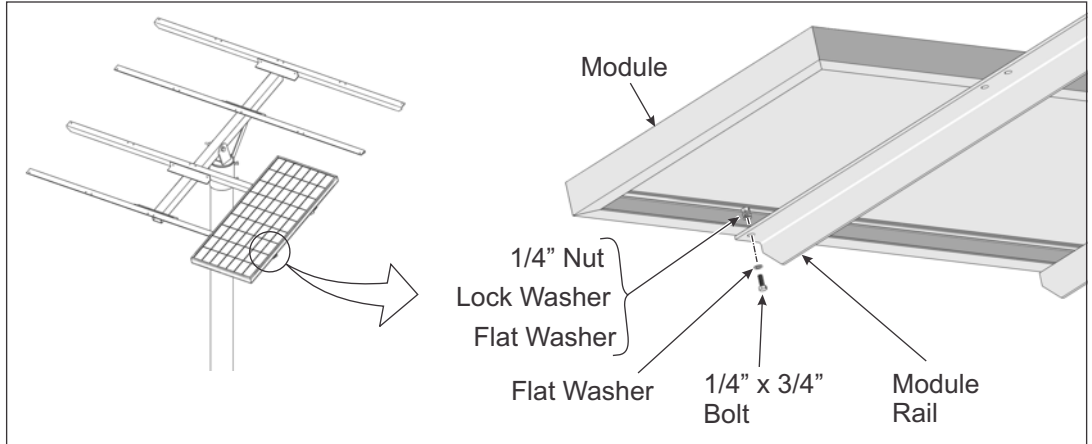

Figure 4-1: Installing PV Modules to Module Rails
- A. Place the southern most PV Module in place on the Module Rails. Align the mounting holes and secure with 1/4" x 3/4" bolts and hardware. Each Module has four attachment points. Finger-tighten for now. (See Figure 4-1)